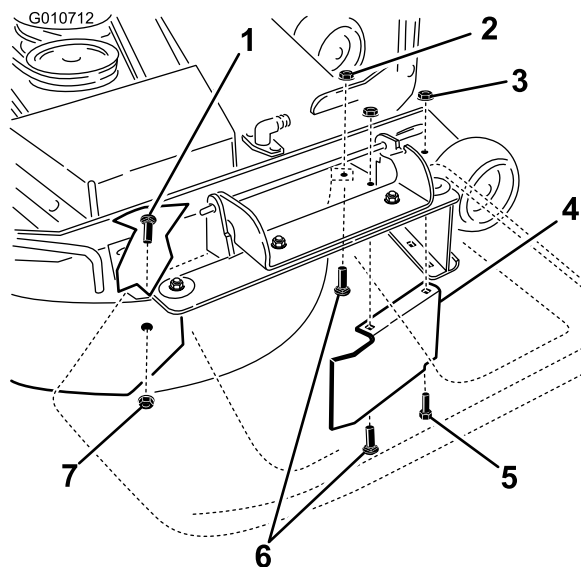

Figure 33
9. Remove the carriage bolt (5/16 x 3/4 inch) and lock nut (5/16 inch) on the rear wall of the mower deck securing the baffle to the deck (Figure 33).
10. Locate the baffle guard at the front edge of the side discharge opening. Remove the fasteners securing the baffle guard and the right baffle to the mower deck as shown in Figure 33. Remove the baffle guard and retain all fasteners.
12. Install the fasteners removed previously at the front holes in the discharge plate and forward hole in the deck (Figure 33).